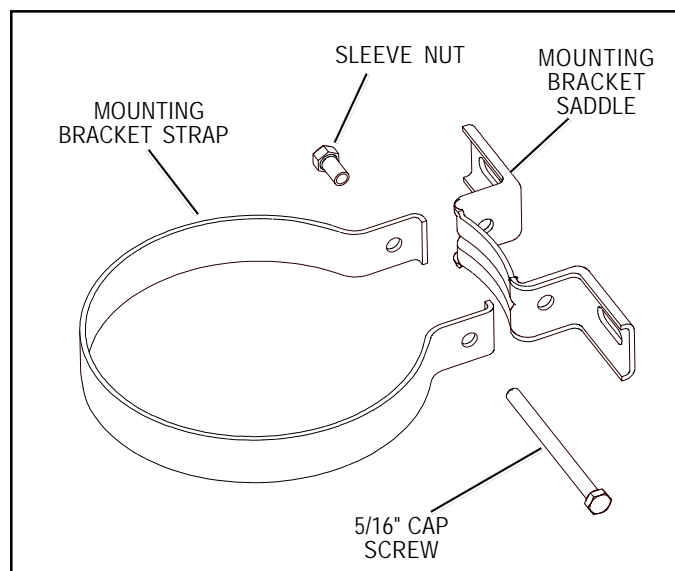

FIGURE 10 - UPPER MOUNTING BRACKET AND STRAP
2. Assemble the mounting strap and upper mounting bracket as illustrated in Figure 10, by utilizing the 5/16" cap screw (25) and sleeve nut (28).